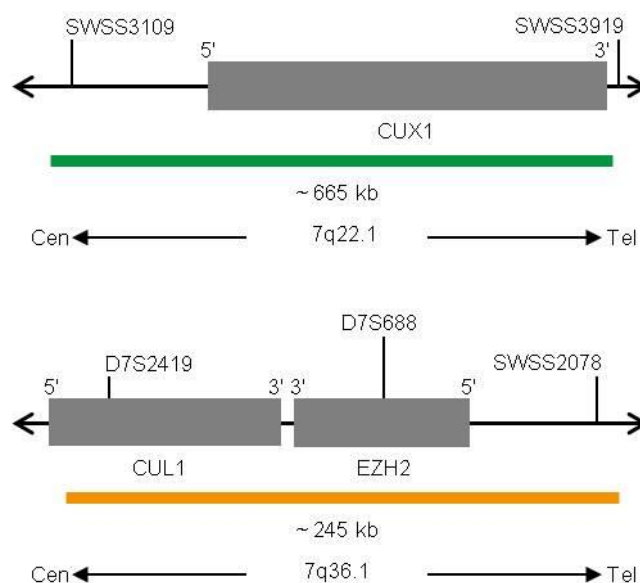

Fig. 1:Top: SPEC CUX1 Probe map; Bottom: SPEC EZH2 Probe map (not to scale)
- ZyGreen (excitation 503 nm/emission 528 nm) labeled polynucleotides (~10.0 ng/μl), which target sequences mapping in 7q22.1\* (chr7:101,270,255-101,934,924) harboring the CUX1 gene region (see Fig. 1).
- ZyOrange (excitation 547 nm/emission 572 nm) labeled polynucleotides (~4.5 ng/μl), which target sequences mapping in 7q36.1\* (chr7:148,402,839-148,647,927) harboring the EZH2 gene region (see Fig. 1).